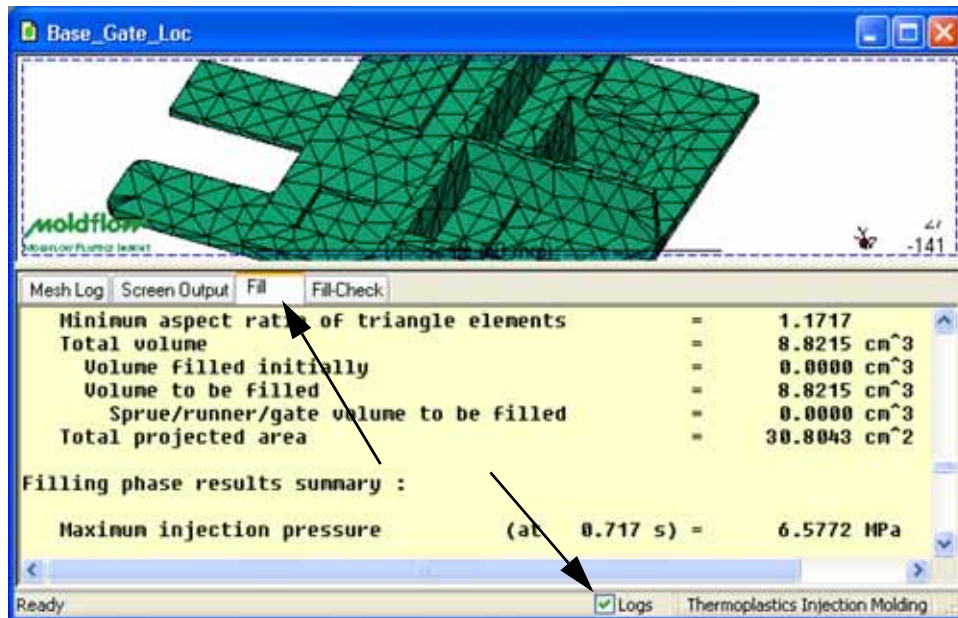

Figure 167: Results summary
3. Check the **Logs** button at the bottom of the Synergy window, as shown in Figure 167.